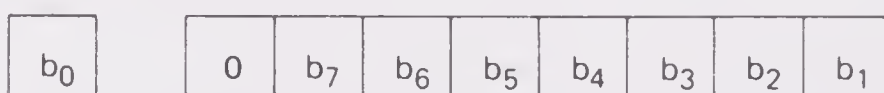

FIGURE 1-1. 6502 shift instructions ASL and LSR.
**ASL** arithmetic shift left; shift the accumulator or a memory location left 1 bit and clear the least significant bit (see Figure 1-1).
**LDX(Y)** load index register X(Y) from a memory location.
**LSR** logical shift right; shift the accumulator or a memory location right 1 bit and clear the most significant bit (see Figure 1-1).